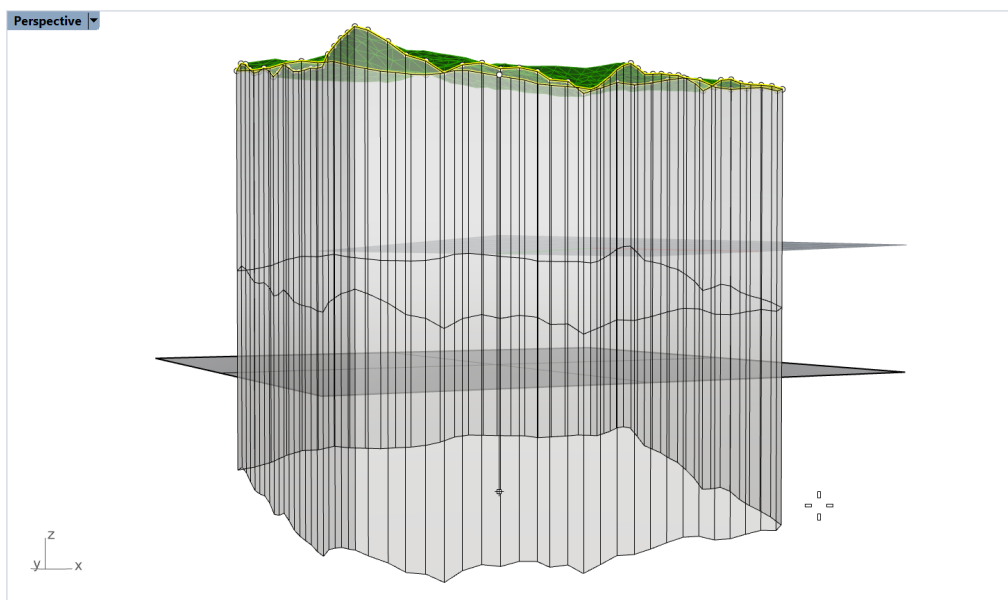

Figure 57: Extrusion of topographic surface border.
20. Select the border curve and extrude it downward using the **_ExtrudeCrv** command in such a way that all parts of the extrusion go below the plane (Figure 57). This will create a polysurface that intersects the horizontal plane. Delete the duplicated border.